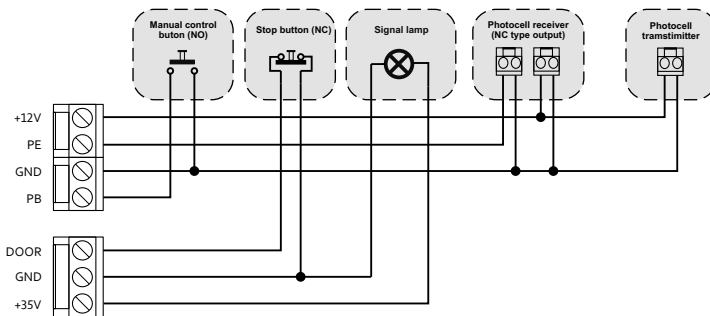

Fig.2. Connection of accessories diagram to GO801/1001 drive.
3.3. Description of electrical connections of GO801/1001-CB controller, figure 2